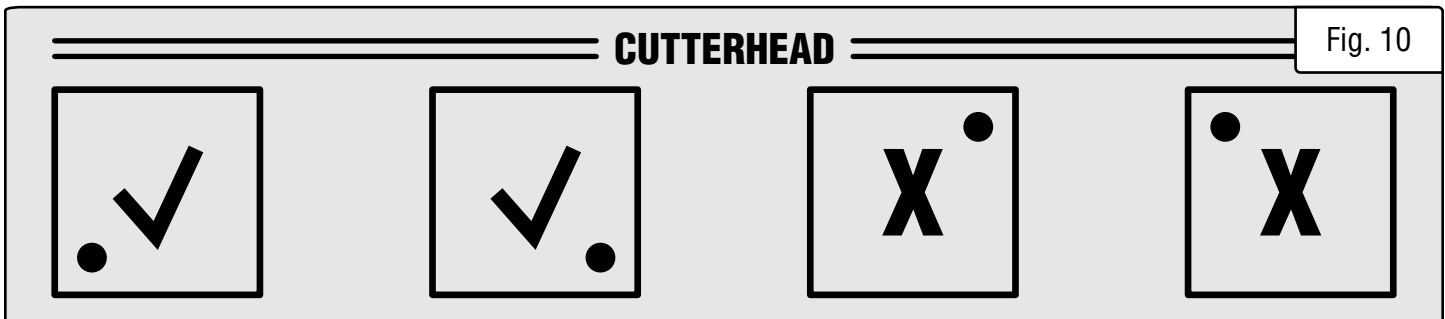

Fig. 10
5. Clean off any dust or debris from the inserts, as well as the cutterhead. Rotate or replace the insert so a fresh edge faces outward (Figs. 10). Make sure the side of the cutting insert is flush against the cutterhead ridge.